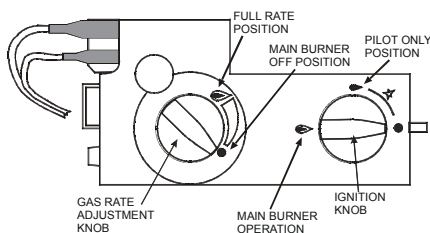

Figure 10 - Gas Valve
5. **Turn the IGNITION KNOB anticlockwise to the Main Burner Operation position as shown in Figure 10.**